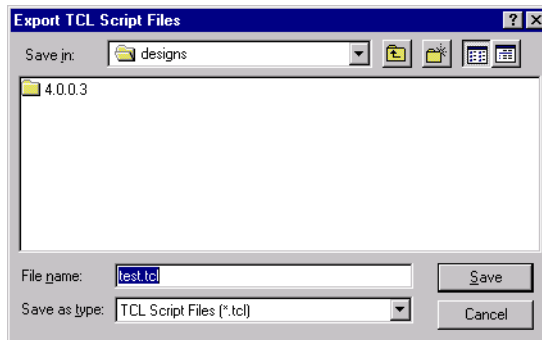

Figure 3-2. Export Tcl Script Files Dialog Box
1. **In the File menu, click Script Files from the Export sub-menu.** The Export Tcl Script File dialog box is displayed, as shown in Figure 3-2.